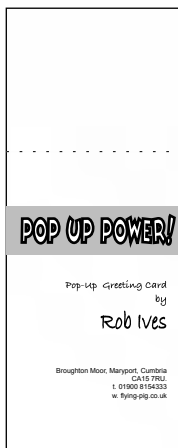

Figure 15-1:
- ✓ A logo label like the one in Figure 15-1